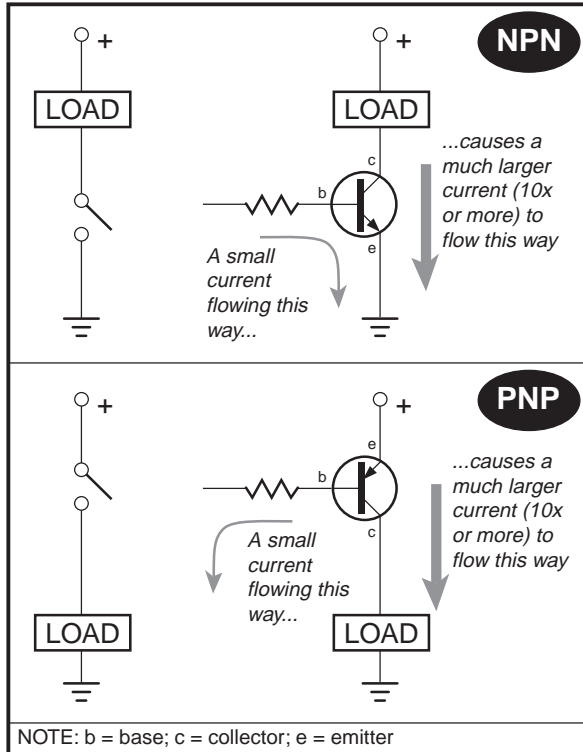

Figure 3. Transistors make good switches.
*Transistors.* By allowing a small base current to control a larger collector current, transistors make good switches; see figure 3. They're fast, quiet, and can last forever. On the other hand, the base current can be somewhat high by Stamp standards (20 to 25 mA). Transistors are usable only as SPST switches, and you have to consider polarity in selecting the transistor type and connecting the load. Finally, even a fully-on transistor has a voltage drop between the collector and emitter. It's typically 0.5 volts, but can be 1 volt or more in Darlington configurations (discussed below). This wastes power and generates heat, which can damage or destroy the transistor.